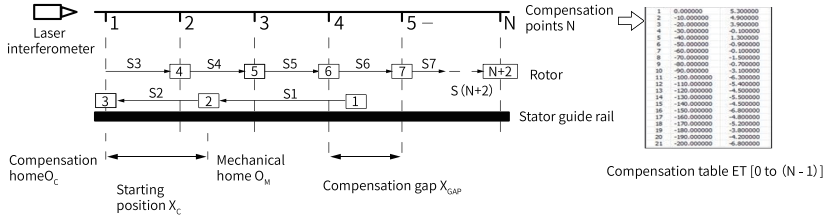
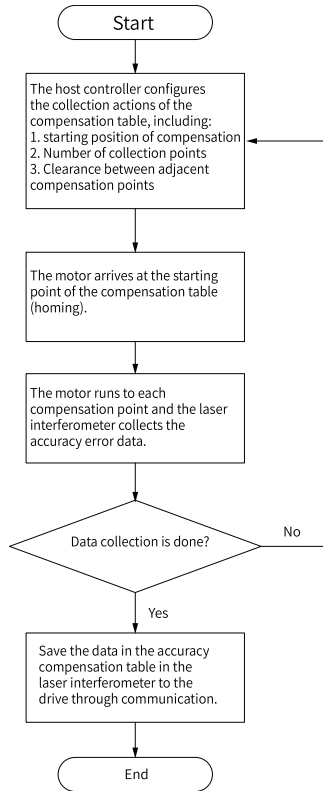

Figure 6-10 Schematic diagram of acquisition of accuracy compensation table
Figure 6-11 Flow chart of acquisition of accuracy compensation table
- At this stage, the user obtains the accuracy compensation table. See the following schematic diagram "Figure 6-10 " on page 388 and flow chart "Figure 6-11 " on page 388 .